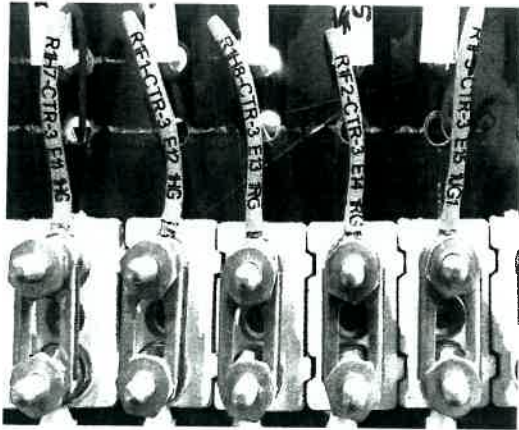

Figure-1
**(A) Outdoor:-**
1. **Conductor/wire labeling:** Function identification marker (Ferrules with printed letters / PVC sleeve with printed details of the cable core / Signalling function in Black with Yellow background) to be provided on each cable conductor. (Annexure-A, Figure-1).
1. **Conductor/wire labeling** : Function identification marker (Ferrules with printed letters / PVC sleeve with printed details of the core / Signalling function in Black with Yellow background) to be provided on each cable conductor. (Annexure-A, Figure-1).